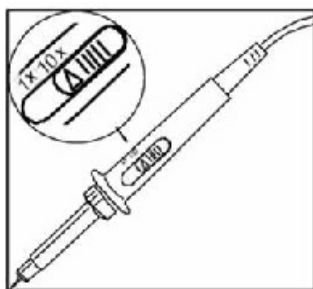

Figure 1-5 Setting the attenuation switch
- ① Connect the probe of the digital storage oscilloscope to the CH1 input, and set the attenuation switch of the probe to 10X (Figure 1-5).